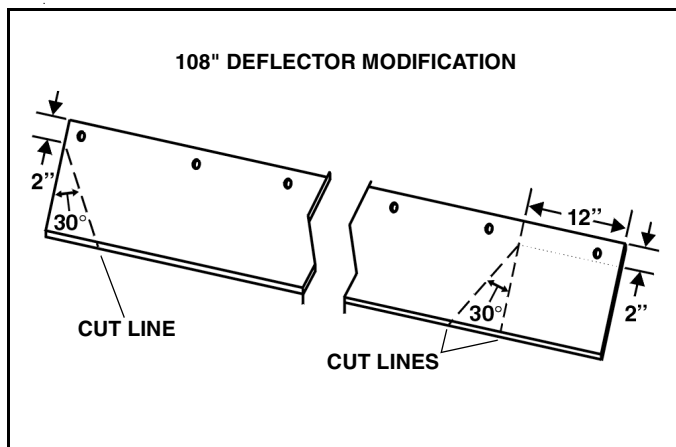

Figure 1-1
1. To shorten to a 108" deflector, remove 12" from one end of deflector (See fig. 1-1)
2. Cut a 30° angle on each end of deflector starting 2" down from the top. (See fig. 1-1)